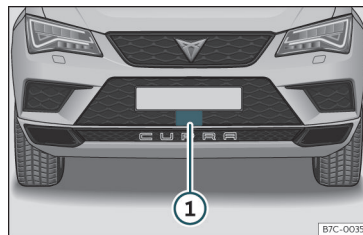

Fig. 211 On the front bumper: radar sensor.
With the vehicle stationary, switch off the engine and start it up again. Check the radar sensor visually >>> Fig. 211  (for dirt, ice or knocks). If it is still unavailable, refer to a specialised workshop to have the system inspected.
A radar sensor is installed on the front bumper to determine the traffic situation >>> **Fig. 211** ①.
This message will be displayed to the driver if the radar sensor's vision is impaired due, for example, to leaves, snow, heavy fog or dirt. Clean the sensor >>> Fig. 211.